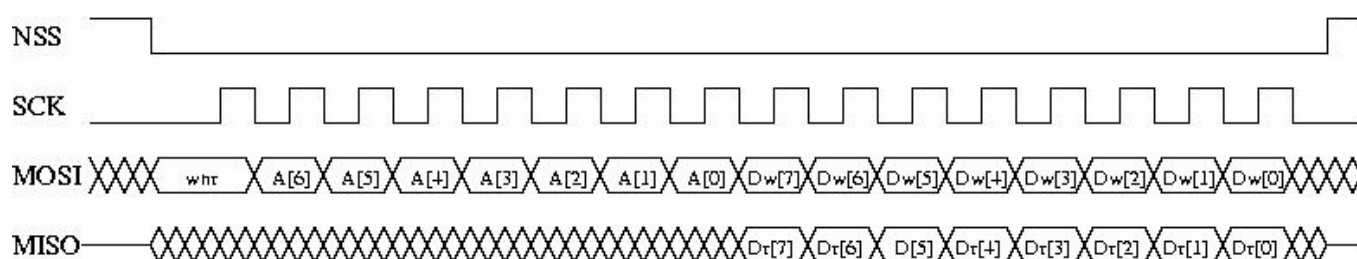

Figure 25. SPI Timing Diagram (single access)
- ◆ *FifoLevel*: Threshold can be programmed by *FifoThreshold* in *RegFifoThresh*. Its behavior is illustrated in figure 25 below.